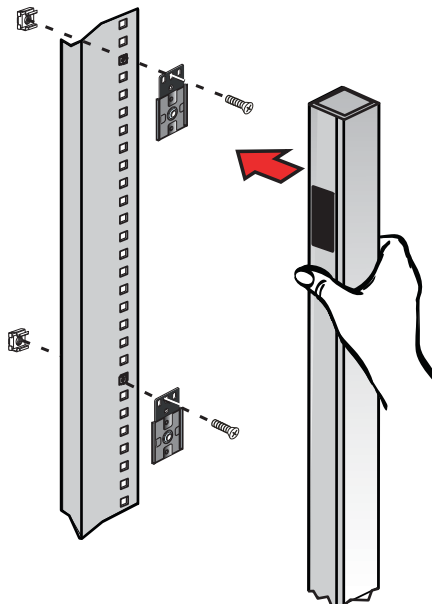

Figure 21. Attaching the Clip Feet and Cage Nuts
3. **ePDU in line with the rail.** Position and lock two cage nuts far enough apart to stabilize the top and bottom of the ePDU when mounted on the rail. Insert the cage nuts with a flat-blade screwdriver (see Figure 21).